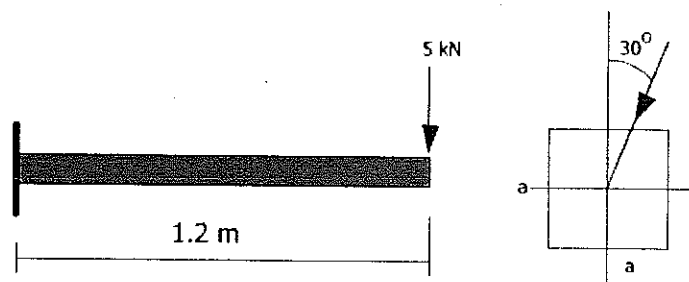

Figure Q5(b)
- (b) A cantilever beam having a square section carries a concentrated load of 5 kN at its free end as shown in Figure Q5(b). The load is at  $30^\circ$  to the vertical principal axis and its line of action passes through the centroid.